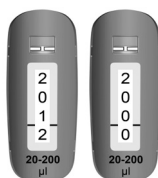

Fig. 3
with which you rotate the adjustment knob (fig.1B), so as not to exceed the value (fig.3).
- If the required volume is higher than the volume set on the counter it is necessary to increase indications of the counter to the value which exceeds the required volume by rotating the bottom drum by about 1/3 of its circumference. Then, by slowly rotating the adjustment knob (fig. 1B), reduce the setting to the required value (fig. 3).